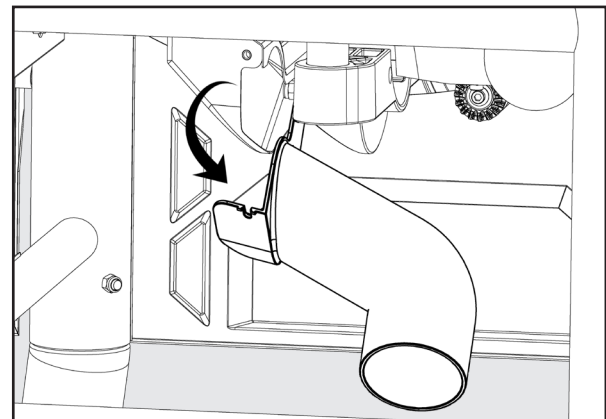

Figure 65
2. Rotate the dust port downward, and clear any sawdust or woodchips that may be inside the dust chute. See Figure 65.